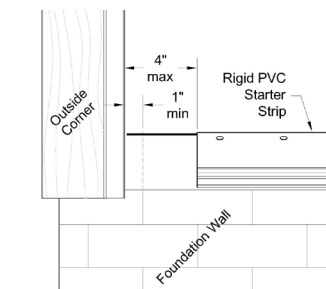

Figure 3
- Align the top of the Everlast starter strip on the level line, leave a 1" to 4" gap from the end of the starter strip & accessory nailing flange. Fasten starter strip to the wall assuring it is tightly fastened. Everlast recommends starter strip be fastened at least every other slot, making sure the end always has a fastener. (Figure 3).